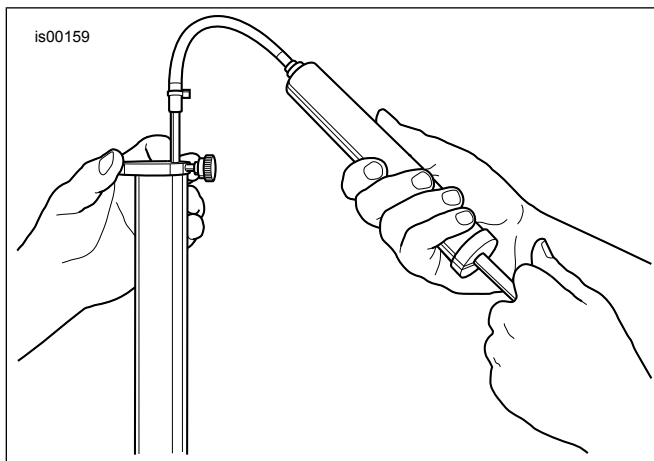

Figure 4. Remove Excess Fork Oil
- a. See Figure 4. Obtain the Front Fork Oil Level Gauge (HD-59000B).
- d. See Figure 4. Insert rod into top of fork tube until metal ring rests flat on top of fork tube.